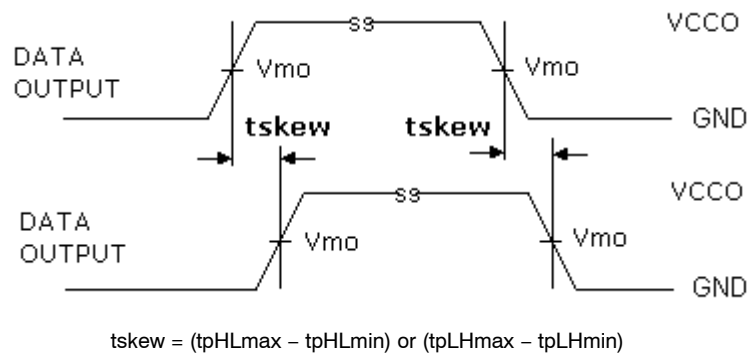

Figure 11. Output Skew Time
13. Skew is the variation of propagation delay between output signals and applies only to output signals on the same Side (An or Bn) and switching with the same polarity (LOW-to-HIGH or HIGH-to-LOW). Skew is guaranteed but not tested in production (see Figure 11).
14. Skew is the variation of propagation delay between output signals and applies only to output signals on the same Side (An or Bn) and switching with the same polarity (LOW-to-HIGH or HIGH-to-LOW). Skew is guaranteed, but not tested in production (see Figure 11).